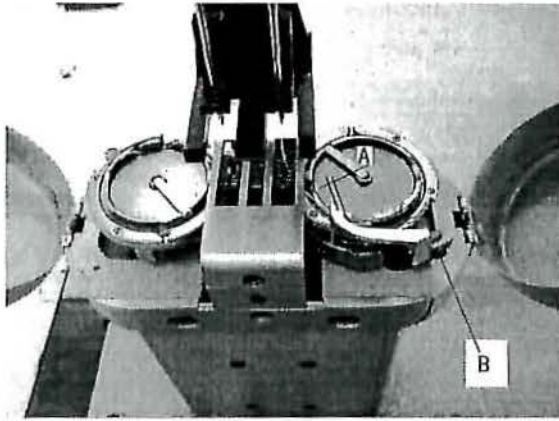

Fig.24
16. ADJUSTMENT OF BOBBIN CASE OPENER (Fig. 24)